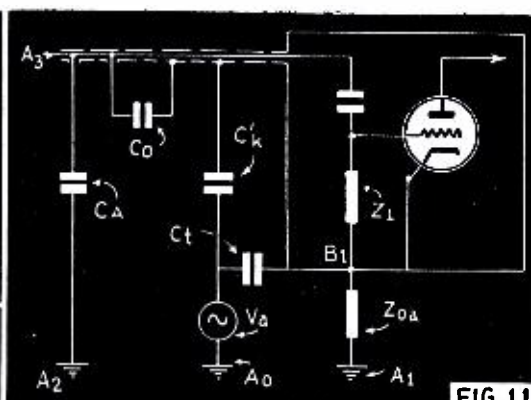
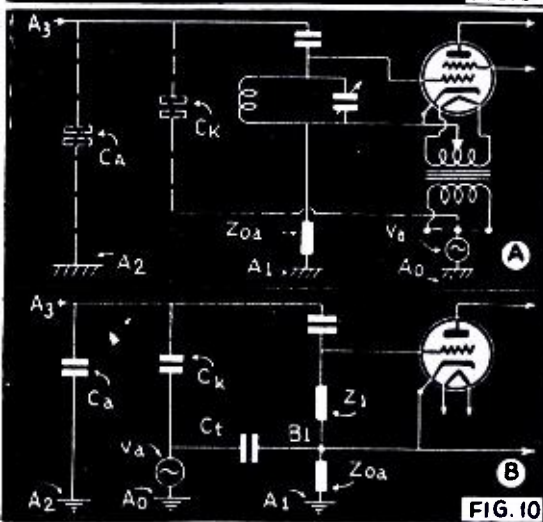

FIG. 11
FIG. 10
Fig. 10. Circuit of the input of a radio receiving set (A) with the corresponding equivalent circuit (B). The aerial A3 is loosely coupled with the tuned circuit represented by Z1. The aerial lead wire possesses stray capacities Ca toward ground (A2), and Ck toward the source of interference Va. The ground point B1 of the receiving set is connected with ground A1 over the ground impedance Z0a. The capacitive coupling of the source of interference Va with the supply side of the receiving set over the supply transformer is represented by Ct.
In Fig. 10 a diagram is given of the input of a radio receiving set, accompanied by an equivalent circuit (*). Those interferences which are capable of causing the occurrence of an appreciable interference between the cathode and the grid of the receiving tube, i.e., over Z1, in the equivalent circuit, will be disturbing for radio reception. We must keep in mind here that in the practical case of a good receiver care is taken that the capacitive coupling Ct between the primary and the secondary winding of the supply transformer is made sufficiently small, so that one need not in general fear that disturbing interference voltages will act across Z1 by way of the circuit Va, Ct, Z1, Ca, A2, A0. If this should be the case the impedance of this circuit can be increased by introducing a high-frequency choke coil in series with Ct, i.e., in the primary circuit of the supply transformer; the impedance of the primary is large with respect to that of Ct and also with respect to the ground impedance Z0a, so that the interference current still flowing through Ct can easily flow off to ground (A1) and only an extremely small fraction passes through Z1 and Ca to A2.
Fig. 11. Interference suppression in the radio set of Fig. 10 by means of shielding the aerial (dotted line). This shielding is connected with the ground point B1 of the receiver which is connected with ground (A1) via Z0a. The shielding has a capacitive coupling C0 with the aerial connecting wire and Ck' with the source of interference Va. The latter can no longer, as in Fig. 10, cause an interference to penetrate into the receiving set by way of the aerial connection.
This shielding is obtained by the use of shielded cable, whose core, which serves as aerial lead, has only a low capacity with respect to the grounded metal covering. The capacity C0 in Fig. 11 is therefore small, so that the intensity of reception is not thereby decreased disturbingly. The grounding of the metal casing is done by connecting it with the ground point B1 of the receiver, as indicated in Fig. 11. As a result the interference voltage Va can now no longer cause an interference current to penetrate into the receiving set over the aerial input by means of a capacitive coupling (Ck in Fig. 10) between supply line and aerial input lead, because the coupling capacity (Ck' in Fig. 11) means only an increase of the capacity Ct of the transformer windings.
The only circuit over which an interference current can now pass through Z1 is: Va, Ct + Ck', Z1, Ca, A2, A0. Just as was noted in the discussion of the circuit over Ct and Z1 in Fig. 10, here also no disturbing interference currents will flow in the circuit of Ct + Ck' and Z1 in Fig. 11, if only the ground impedance Z0a can be made small enough with respect to the impedance of the capacity Ct + Ck'. Practically the interference current is then immediately conducted to ground (A1) through Z0a. The suppression of interference which can be